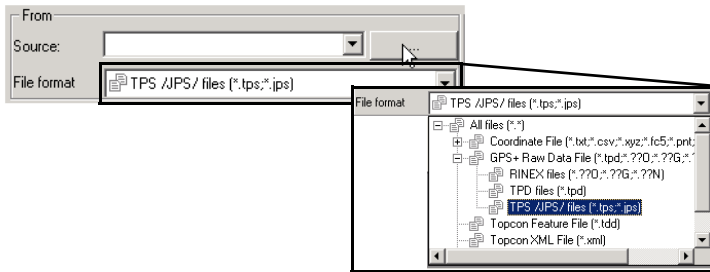

Figure B-23. Select Raw Data File Format
- In the *From* panel, select the *File format* of the raw data file (Figure B-23).